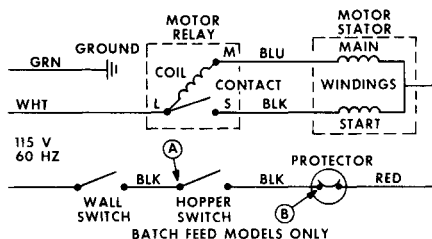

Figure 1 - Wiring Diagram.
- c. Attach the leads of the ohmmeter to points A and B of the hopper switch and protector, Figure 1.